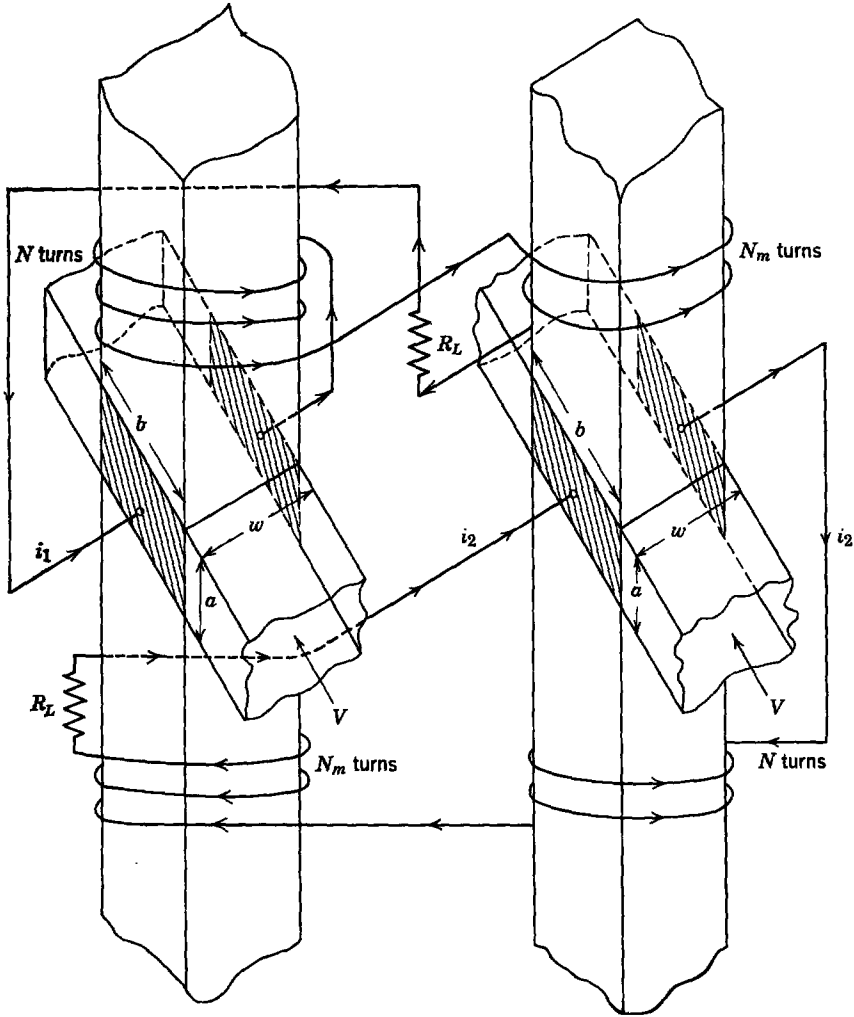

Fig. 12P.27
12.28. The system shown in Fig. 12P.28 has been proposed for an ac, self-excited, MHD power generator. It consists of a *single* channel with length l , width D , and height W , through which an incompressible, inviscid, highly conducting liquid with conductivity σ and permeability μ_0 flows. The velocity of the liquid is *constrained* externally to be a *constant* and always in the x_1 -direction; that is, $\mathbf{v} = V\mathbf{i}_1$ everywhere in the channel. (The scalar V is a known fixed constant.) The sides of the channel at $x_2 = 0$ and $x_2 = W$ are insulating, but the other two sides, namely those at $x_3 = 0$ and $x_3 = D$, are perfectly conducting electrodes.